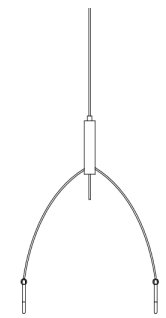

Figure 7
- Attach the long cable to the connection on the short cable by partially unscrewing the cap of the connector and feeding the cable through the top hole and out the side hole (Figure 7).